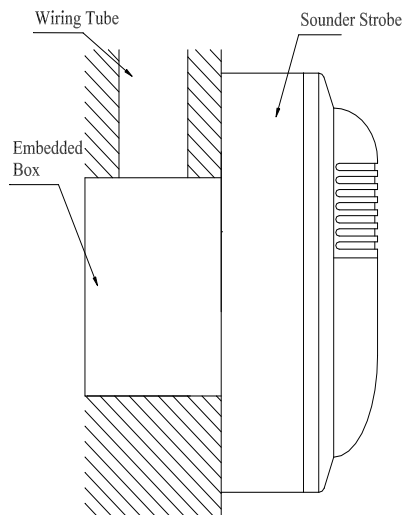

Fig. 2 Mounting
2. The base box and cover of the sounder strobe are plugged together, surfaced mounted on 85H50 embedded box as shown in Fig. 2.